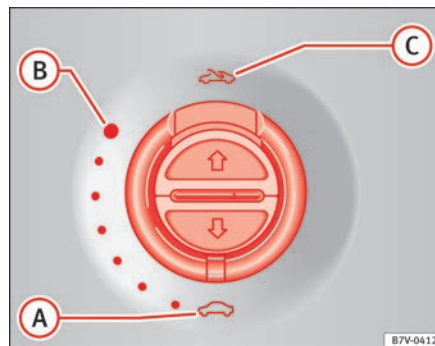

Fig. 58 On the interior roof lining: use the rotary button to open and close.
⇒ fig. 58
- The ⇒ fig. 58 switch should be in the “closed” position .